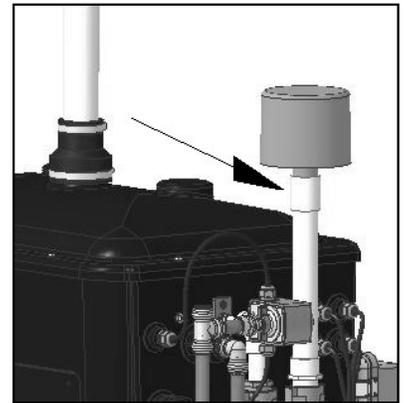

Figure 12
1. Install air filter provided using the PVC pipe and fittings provided (Fig 12).